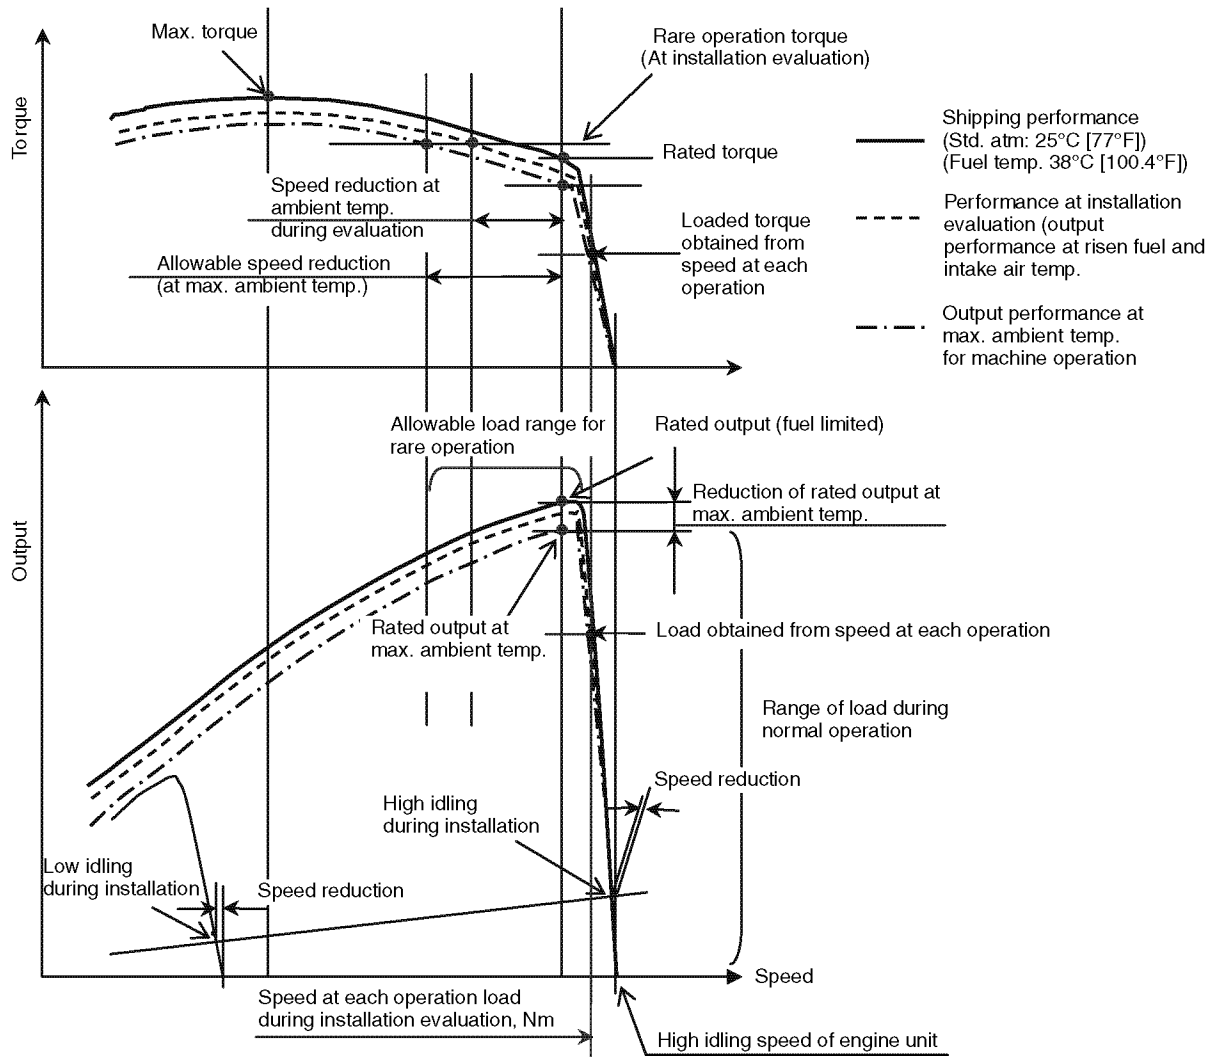

Figure 8-10
6. The plot data provided under standard conditions for the sample machine (solid line) are multiplied by the above total output ratio  $P_{rt}$  over the whole plot area **(Figure 8-10)**.
7. The result is the performance curve indicated by the dotted line in **(Figure 8-10)**. This curve represents the engine performance under the ambient conditions of the matching test.
7. The plot data provided beforehand for obtaining the performance curve (solid line) by the measurement using the sample engine are multiplied by the above total output ratio  $P_{rx}$  over the whole plot area **(Figure 8-10)**.
8. The result is the performance curve shown in **(Figure 8-10)** with a dot-and-dash line. This line shows the engine performance at the maximum ambient temperature  $T_x$  specified by the machine manufacturer.
Plot this load on the performance curve shown with dot-and-dash line on **(Figure 8-10)**, and perform the following examination.
2. Evaluation of output matching at the rare operation of the machine (shown with \* in **(Figure 8-10)**)